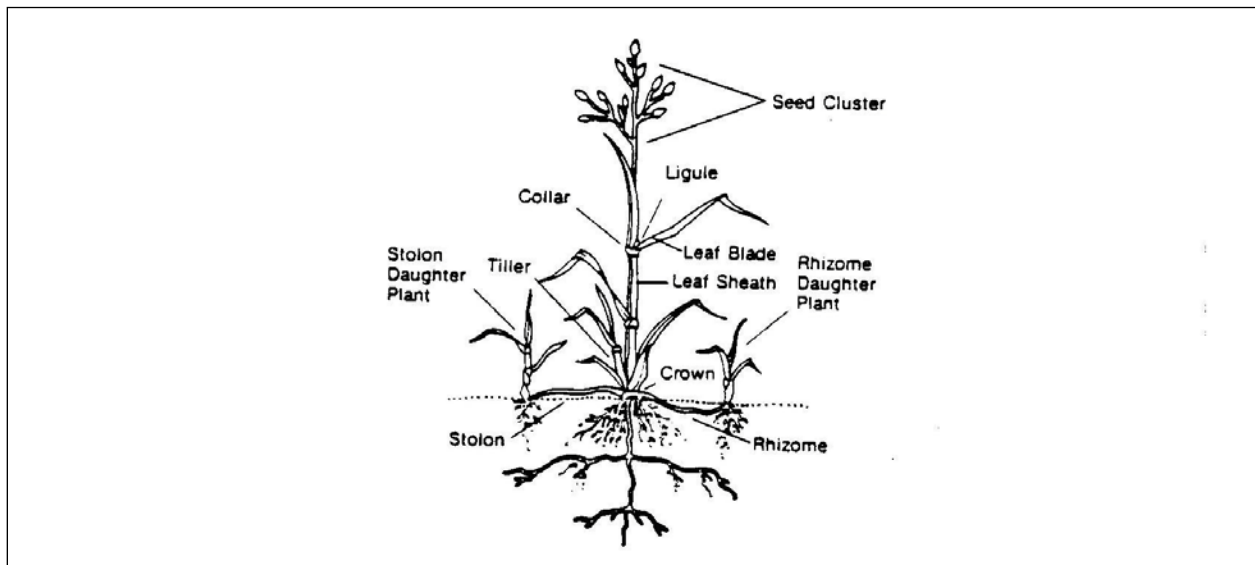

Figure 1. Typical turfgrass plant.
**Rhizomatous:** Rhizomatous turfgrasses spread primarily through below-ground shoots called rhizomes (Figure 1). Bahiagrass is an example of a turfgrass that forms an extensive system of rhizomes.
*Stoloniferous*: These grasses spread by above-ground, lateral shoots called stolons (Figure 1). Centipedegrass and St. Augustinegrass spread by stolons.